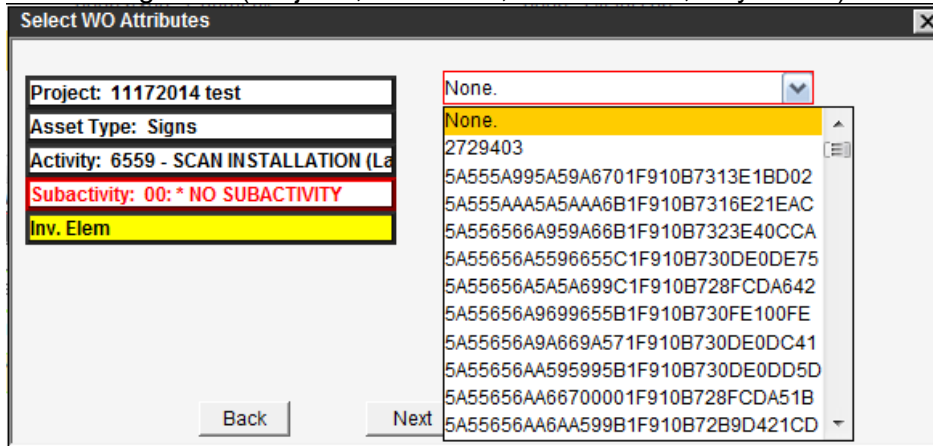

Figure 5-5. Select Work Order Inv. Elem Example
- e. If the dialog box remains open to the Inv. Elem selection (Figure 5-5), select from inventory item names, and select **Next** one time to proceed.
TIP! If an Inventory Element was specified in the WO Attributes dialog box (Figure 5-5), the Work Target pane in the background shows the record.